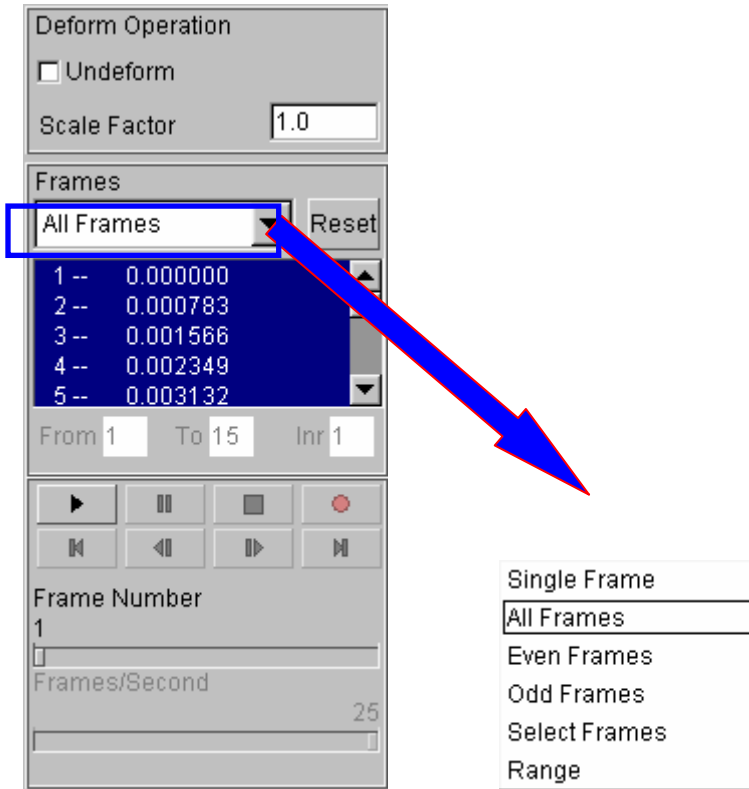

Figure 150: Animating deformation dialog box
1. The default **Plot State** is **Deformation**. In the **Frame** dialog, select **All Frames** and press **Play** button to animate the results. See Figure 150.